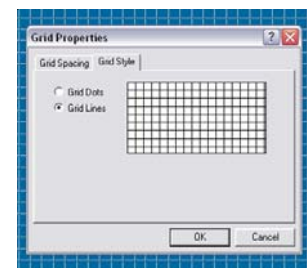

Figure 10
5. The fifth step is to set the type of grid that you wish. Make the lines look like your graph paper by selecting the **design menu** again. **Click** on **grid properties**. Click on the **Grid Style** tab. Click on the **Grid Lines** button and **click OK** as shown in **figure 10**.